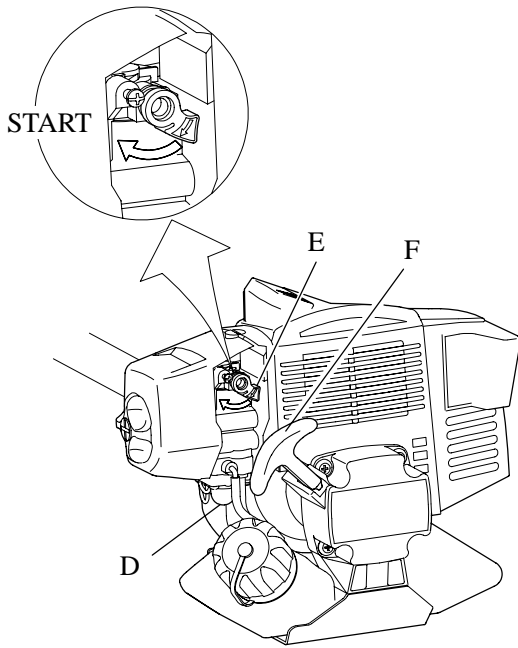
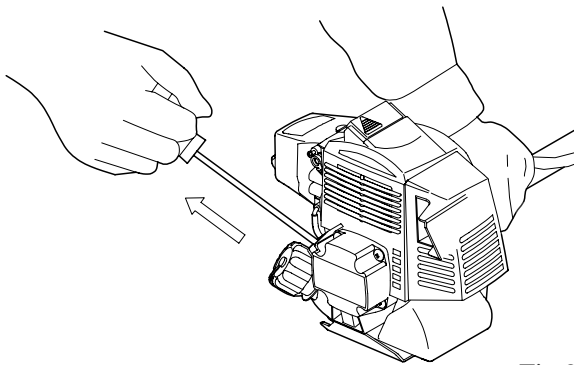

Fig.9-5
Fig.9-6
Push the priming pump (D) several times (Fig. 9-5).
Move the choke lever (E) to the “START” position (Fig. 9-5).
Pull the recoil starter grip (F) firmly and rapidly until the engine fires (Fig. 9-6).
Push the priming pump (D:Fig. 9-5) several times.
Move the choke lever (E:Fig. 9-5) to the “START” position.
Pull the recoil starter grip (F:Fig. 9-5) firmly and rapidly until the engine fires (Fig. 9-6).
NOTE: If you pull lever (I), the choke lever (E:Fig. 9-5) will return by itself.